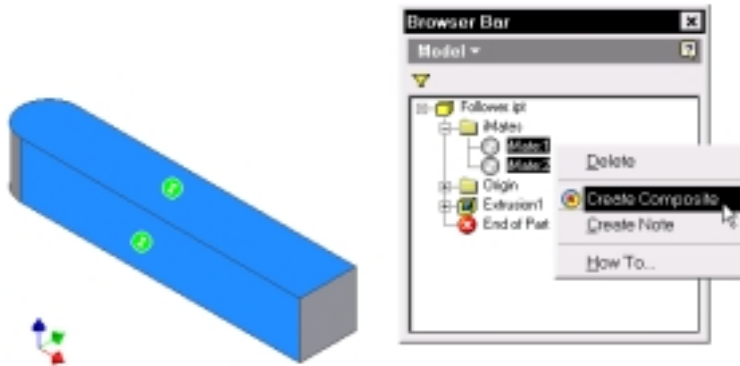

Figure 3-23
8. Right-click and select Create Composite. (See Figure 3-23.)